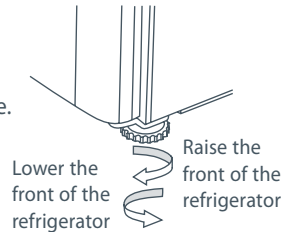

Fig.2 Refrigerator feet
- C** Adjust the front feet down until the refrigerator is leaning backward with the front approximately 10 mm higher than the back. This will ensure a good door closing action. (Refer to Fig.2).